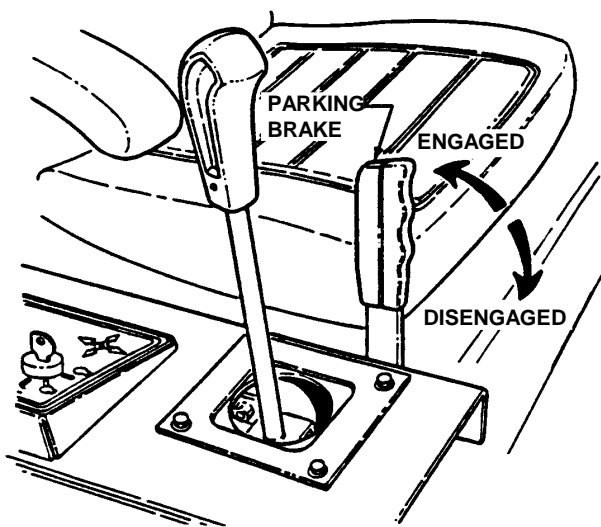

FIGURE 3.4
1. Engage parking brake by pulling the parking brake lever back to the "ON" position. See Figure 3.4.